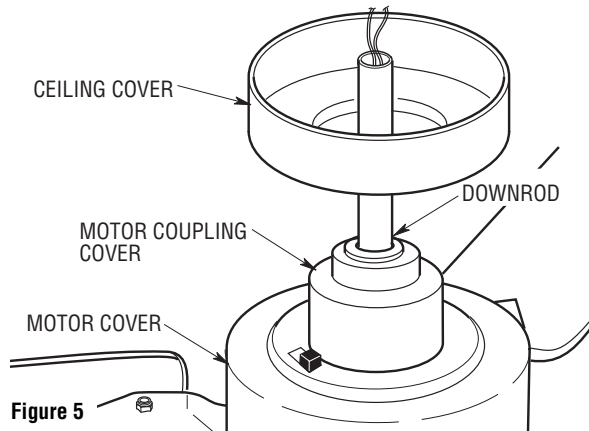

Figure 5
- 8. Make sure the grommet is properly installed in the coupling cover, then slide the coupling cover on the downrod until it rests on the motor housing. Place the ceiling cover over the downrod. Be sure that the ceiling cover and the coupling cover are both oriented correctly (Figure 5).